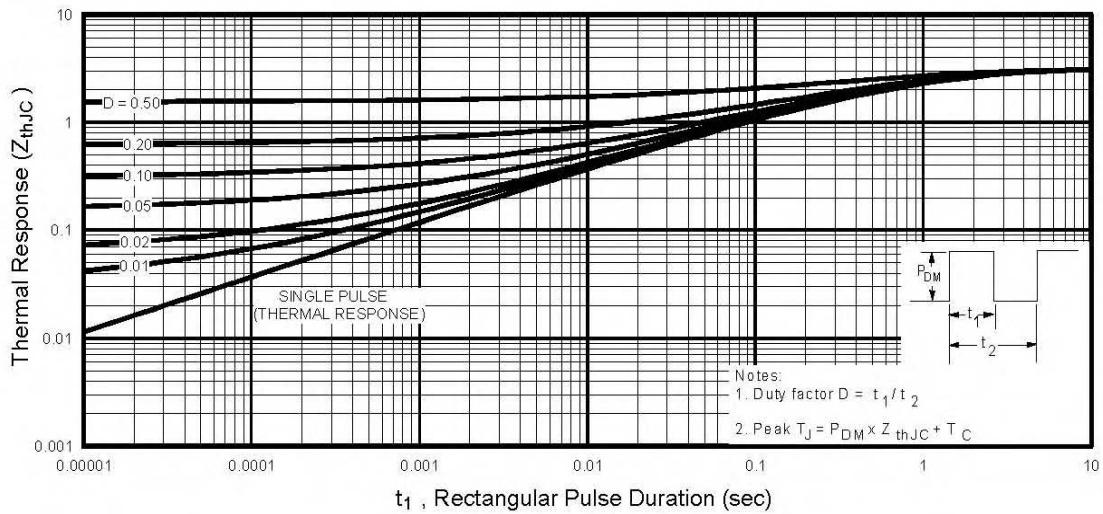

Fig 11. Maximum Effective Transient Thermal Impedance, Junction-to-Case
① Repetitive rating; pulse width limited by max. junction temperature. (See fig. 11)
③ $I_{SD} \leq 17A, di/dt \leq 150A/\mu s, V_{DD} \leq V_{(BR)DSS}, T_J \leq 150^\circ\text{C}$
⑤ $t = 60s, f = 60Hz$